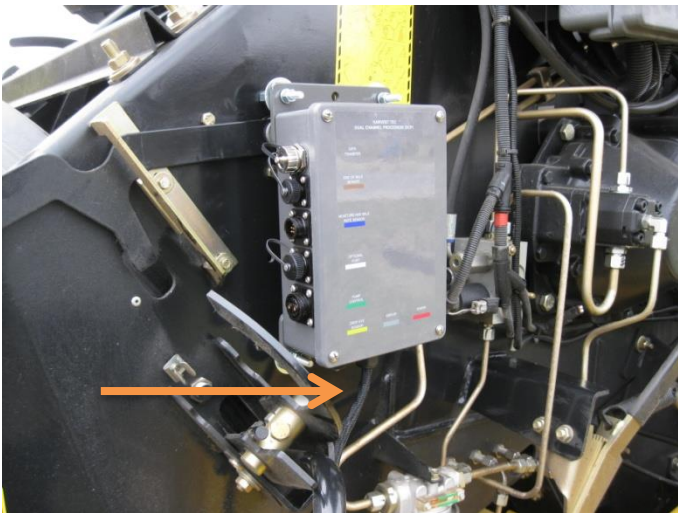

Figure 7
5. Mount the DCP with the display cable pointed down to the baler. (Figure 7)
6. Attach lock washers and hex nuts to mount the DCP to the baler. Do not tighten down yet (Figure 7)